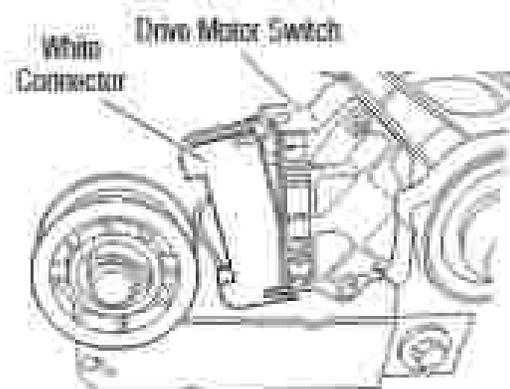

Figure 2 - Remove white connector.
8. Remove the white connector from the drive motor switch. See **Figure 2**.